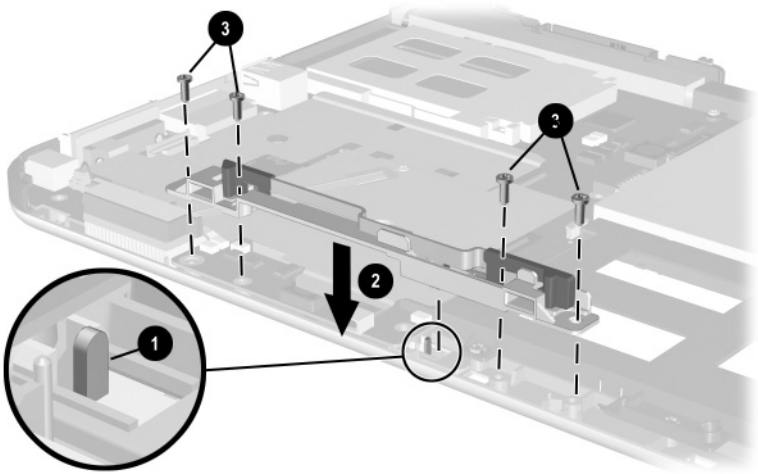

Figure 5-21. Installing the Keyboard Release Assembly
When installing the keyboard release assembly, make sure the actuator tab ❶ in the base enclosure is in the leftmost position. After this tab is positioned properly, install the keyboard release assembly ❷ and screws ❸ (Figure 5-21).